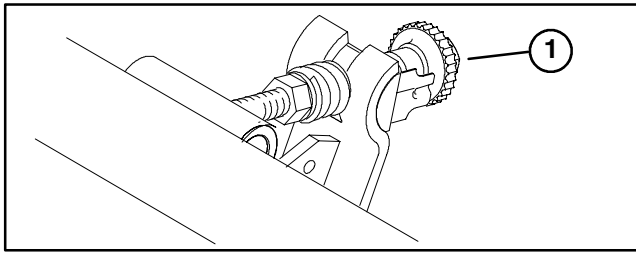

Figure 2
ADJUST BEDKNIFE PARALLEL TO REEL (Fig. 2–3)
1. A 19 mm (3/4 inch) wrench will be needed to rotate bedknife adjustment knob. Each notch on the knob will move the bedknife .0005 inches (Fig. 2). Make sure reel contact is removed by rotating bedknife adjustment knob counterclockwise